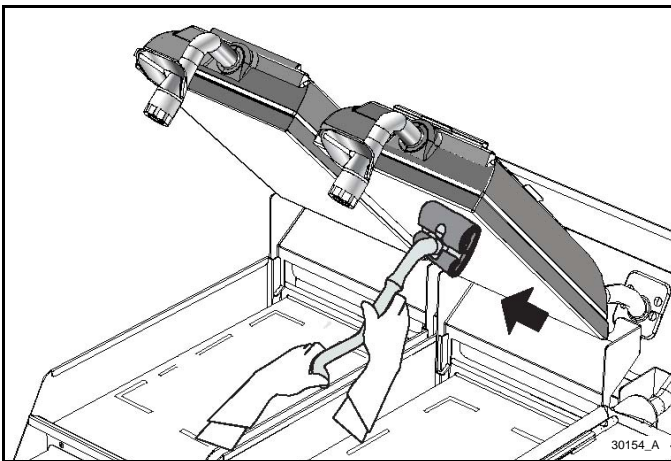

Figure-155
26. Scrub the upper and lower plate with the grill cleaning tool and pad. See Figure-155.